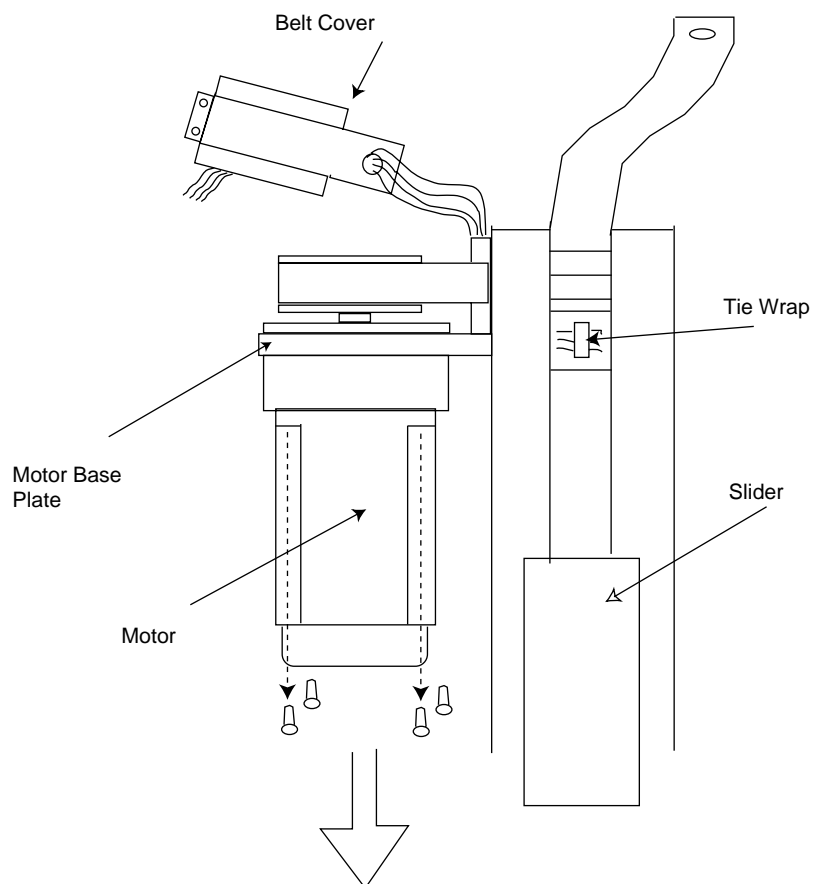

Figure B-4. Separating Motor From Base
- Remove the four screws from the motor base plate to separate motor from the base plate (see Figure B-4).
- Cut the tie-wrap on the module (see Figure B-4).